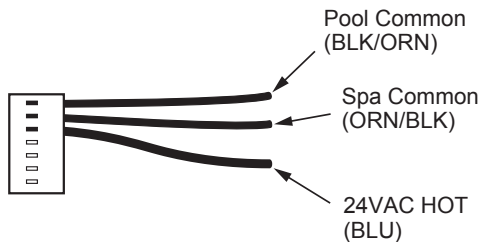

Figure 48. 7-Pin Remote Interface Harness
7. Install the "7-Pin Remote Interface Harness" to the P8 connector and turn power "ON" to the heater. See **Figure 48**.